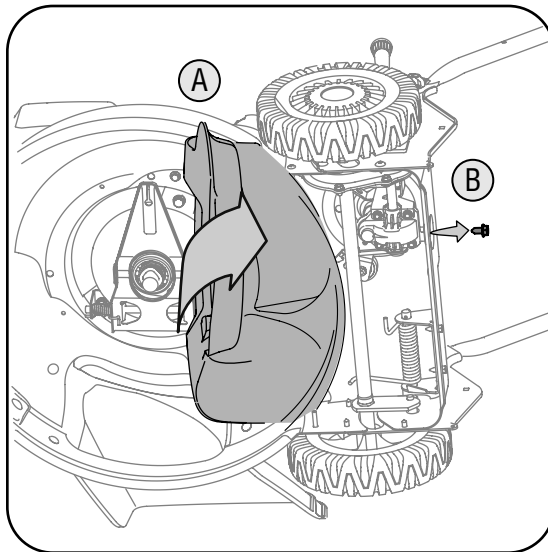

Figure 5-6
6. Lift baffle towards the rear of the mower. Remove the hex bolt from the rear of unit holding the transmission to the mower housing. See Figure 5-6.